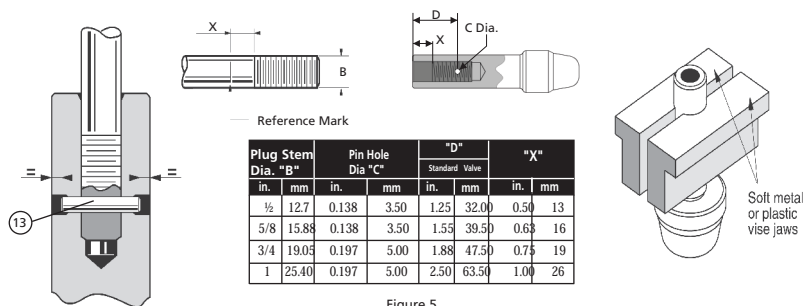

Figure 5
Measure the depth of the pilot recess in the plug (Dimension X in Figure 5), and make a reference mark on the plug stem at the same distance from the thread.
Note: While pinning is being performed, care must be taken not to damage the seating surface or plug guide. Always use a soft metal or plastic vice jaws with cylindrical features to hold the plug guide area (see Figure 5).
If the plug is already fully drilled (typical for 440C hardened stainless steel material or solid stellite), then drill the stem to the same diameter (diameter C in Figure 5) as the plug shank hole.
- Match the hole size in the plug, or match diameter C (see Figure 5)
- Measure dimension D based on the plug guide diameter and stem diameter (see Figure 5).
Select the correct size pin based on the plug guide diameter and stem diameter (see Figure 5). Apply a small amount of grease on the pin and hand assemble it into the hole in the plug.
Press fit the pin into the hole using a hammer. Complete the pinning operation by taking care to ensure that the pin is recessed by the same amount at both sides (see Figure 5).